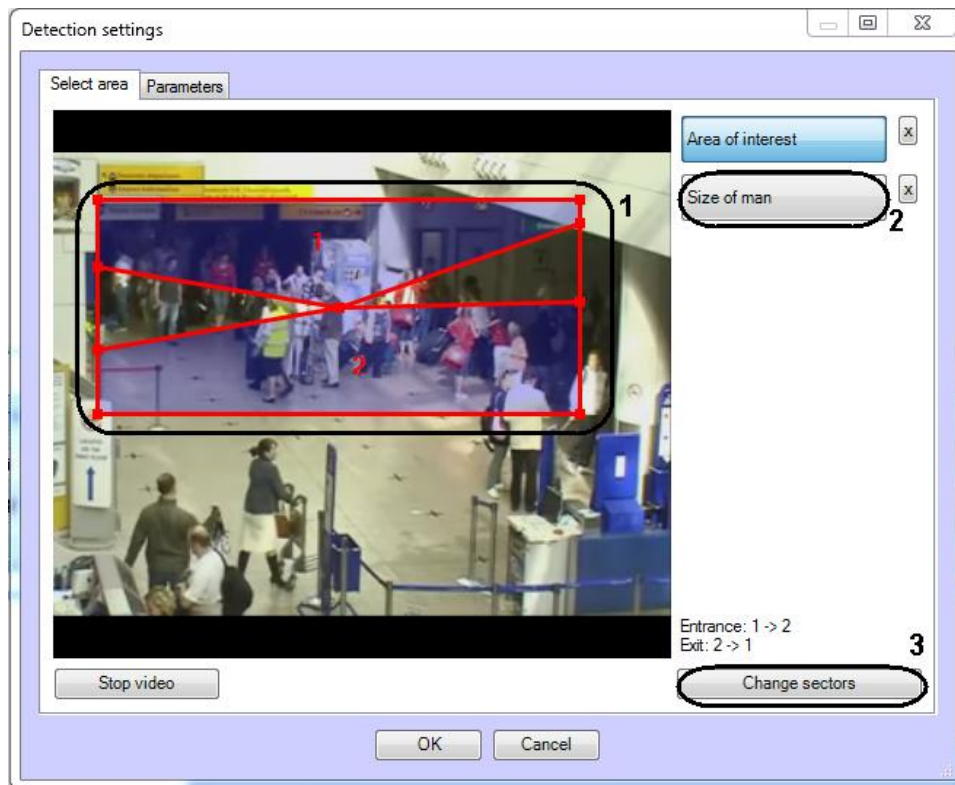

Fig. 6.2—4 Setting the area of interest
- 3.4. Set the desired size, shape and position of the sectors in the area of interest by moving their boundaries (see Fig. 6.2—4, 1).
- 3.5. If you want to swap sectors 1 and 2, click **Change sectors** (see Fig. 6.2—4, 2).